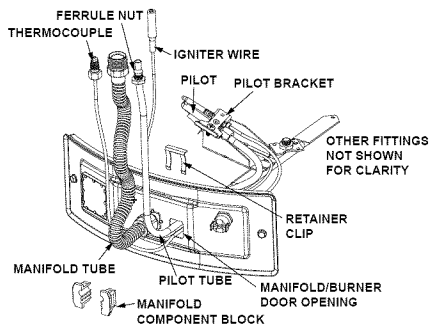

FIGURE 32.
2. Lift the retainer clip straight up from the back of the manifold component block (using a flat-blade screwdriver), then remove the manifold component block from the manifold door (Figure 32.)
6. Position the new thermocouple through the bottom opening of the manifold component block (Figure 32). Be sure igniter wire is positioned through the small opening of the manifold component block.
7. Route the new pilot tube, thermocouple, and igniter wire through the manifold/burner door opening. (Figure 32)
14. Carefully bend the new pilot tube and thermocouple to match the bend of the manifold tube. **NOTE:** When bending, **DO NOT** crimp or crease the pilot tube or thermocouple. (Figure 32)